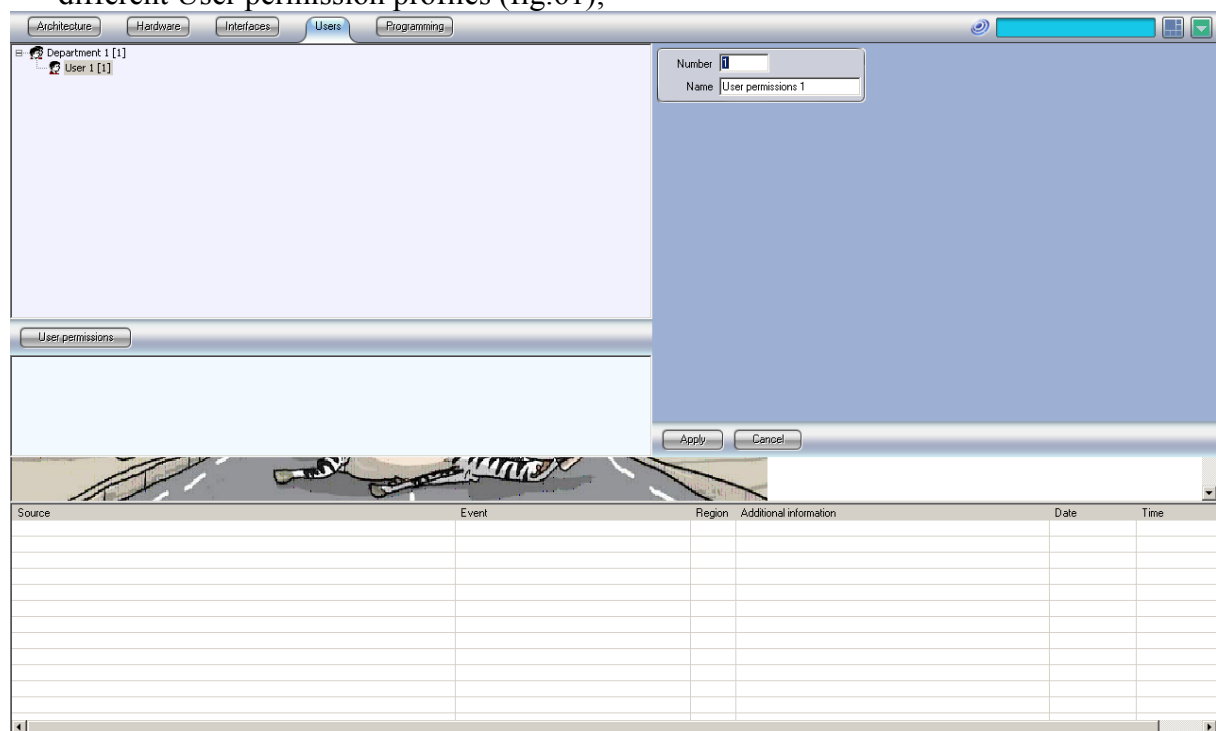

fig. 61
- Program “User rights” profiles – from the “User permissions” button you create different User permission profiles (fig.61);